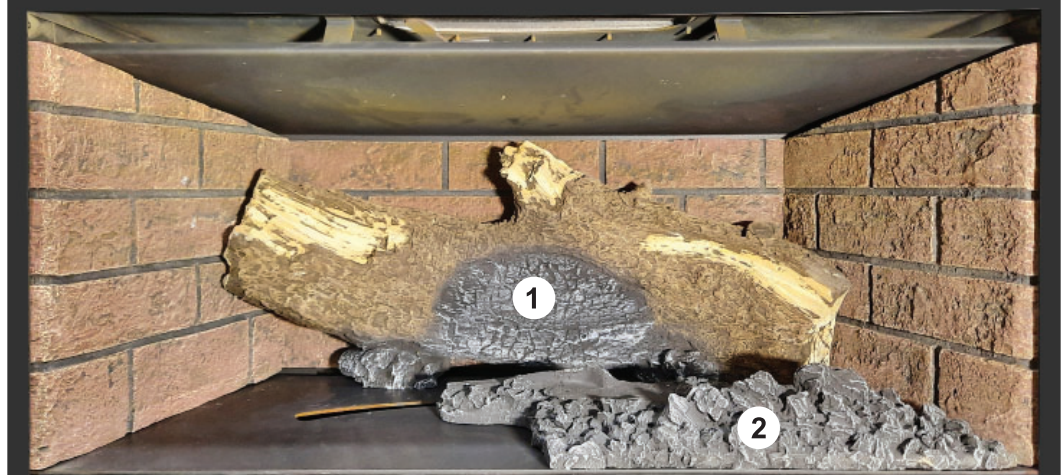

Fig.2
2. Place **#2 ember base** flush with firebox front edge. **(Fig.2)**